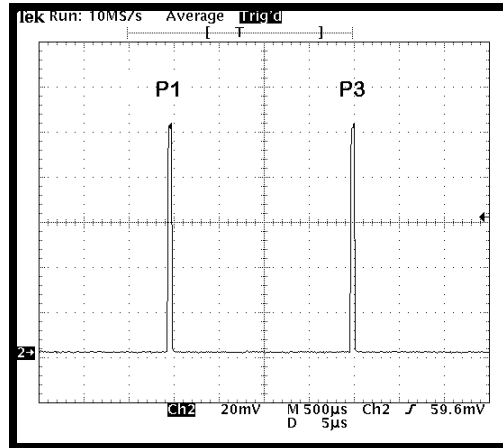

Figure 3-3. P1 and P3 Pulses
2. Set the **XPDR MODE** switch on the ATC-1400A to position **C**. The oscilloscope shall display the P1 and P3 pulses similar to Figure 3-3. _____ **OK**